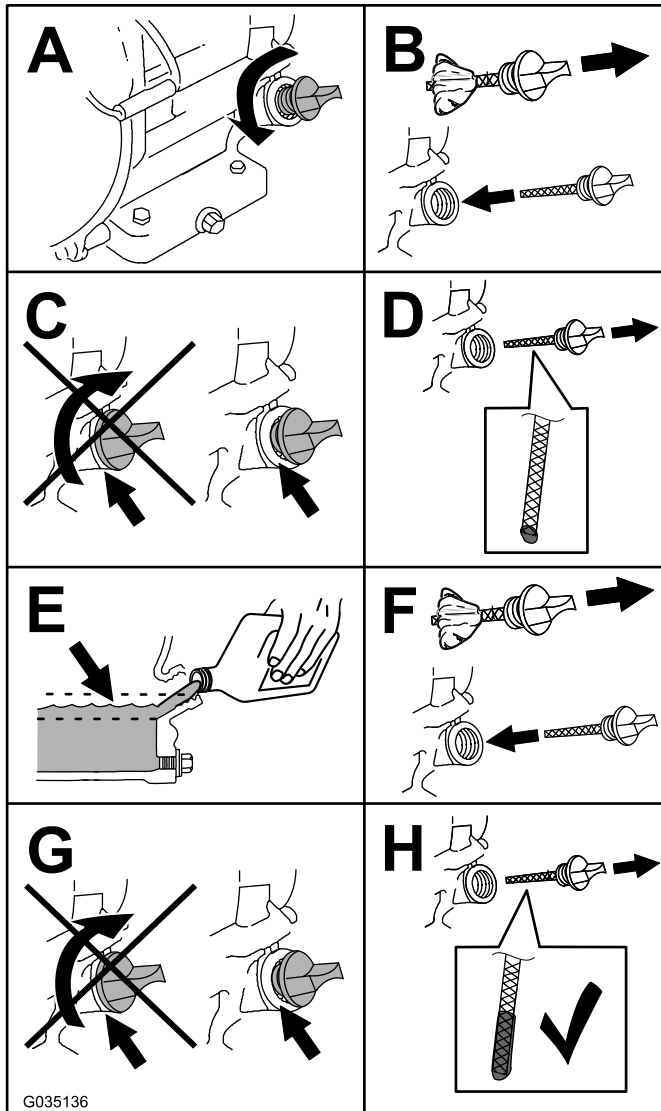

Figure 42
5. Check the oil level as shown in Figure 42.